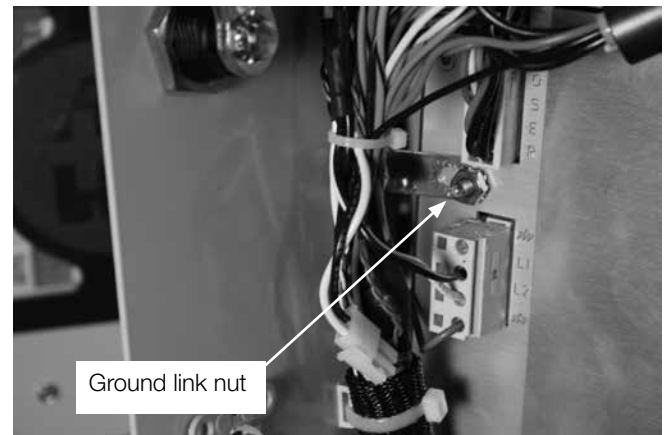

Figure 49. Position the ground link on the swing panel to line up with the ground lug on the module
9. Position the ground link on the swing panel to line up with the ground lug on the module as it moves into position (Figure 49).
12. Torque the nuts on the ground link to 24 in.-lbs. (Figure 49).
2. Position the ground link on the swing panel to line up with the ground lug on the module as it moves into position (Figure 49).